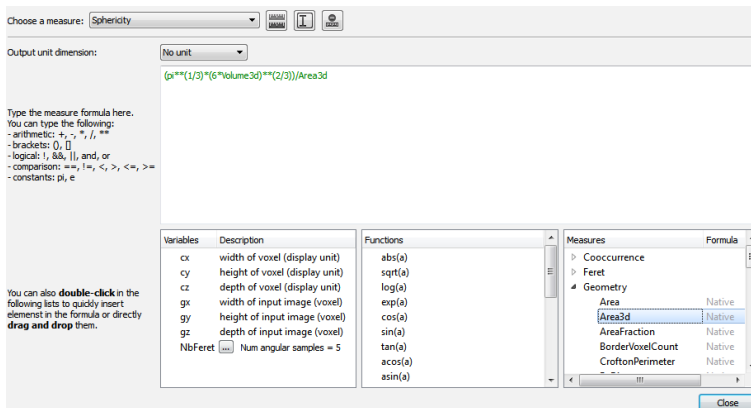

Figure 6.55: Measure edition
- Enter the sphericity formula in the dedicated field of the panel (see Figure 6.55).